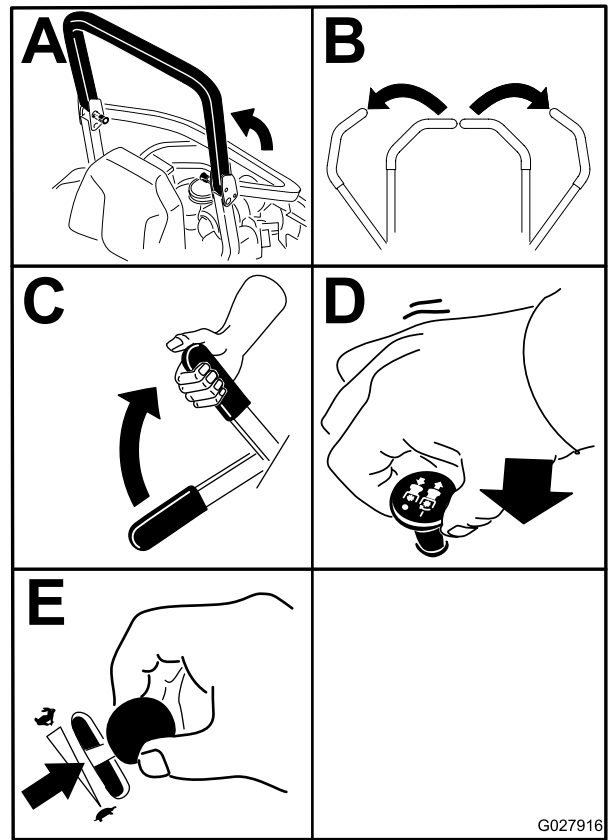

Figure 17
4. Move the blade-control switch (PTO) to the Off position (Figure 17).